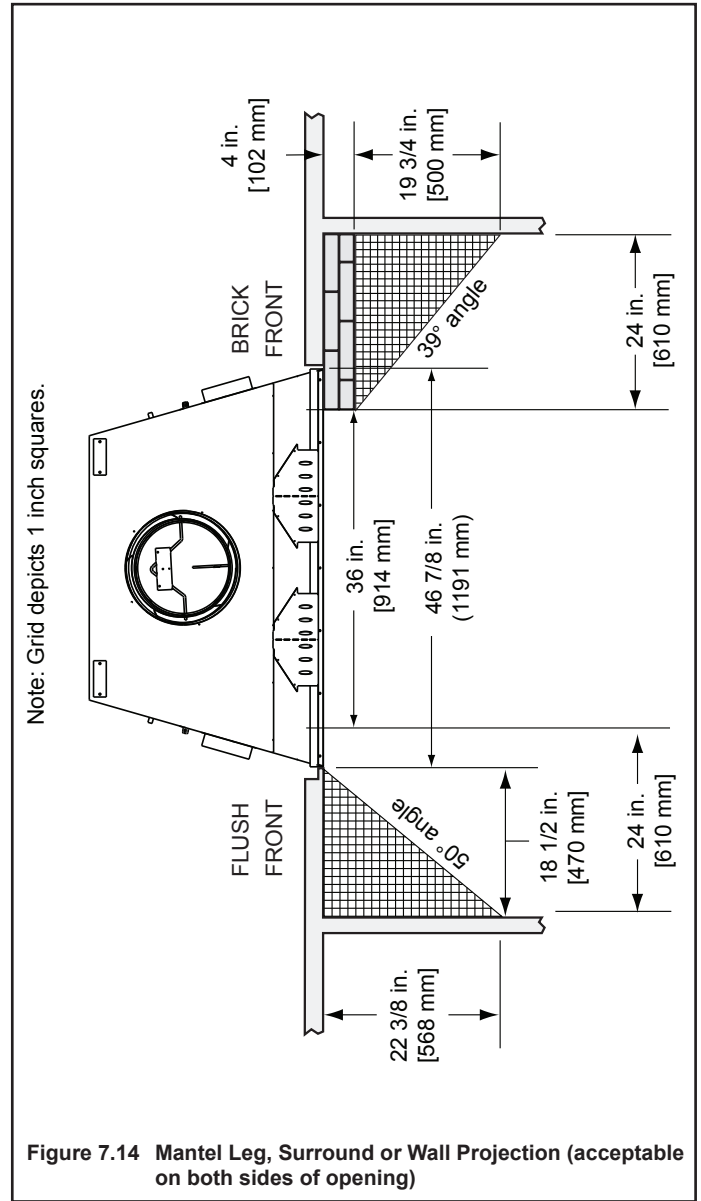

Figure 7.14 Mantle Leg, Surround or Wall Projection (acceptable on both sides of opening)
- Mantle leg, surround, stub wall, whether combustible or non-combustible, may be constructed as shown in Figure 7.14.